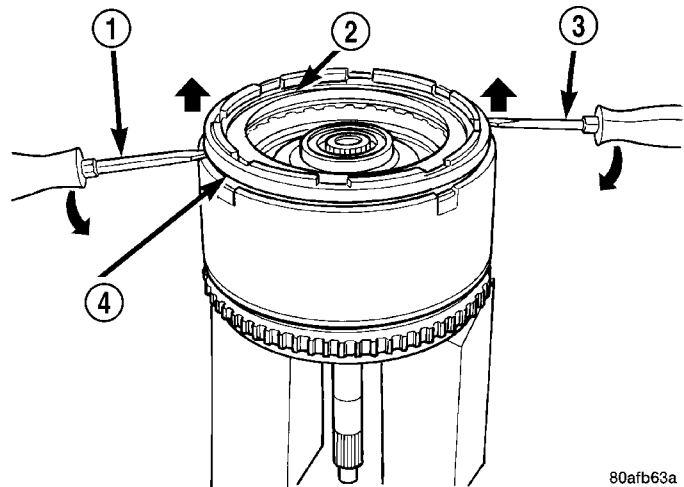

Fig. 246 Pry Up Reaction Plate
(31) Pry up reverse reaction plate to seat against snap ring (Fig. 246).